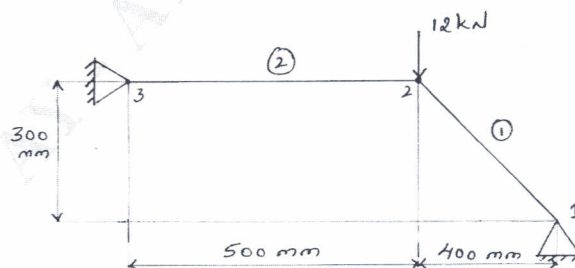

Fig.Q6(b)
b. For the two bar truss shown in Fig.Q6(b), determine the nodal displacement, stresses in each element and reaction at the support. Take $E = 2 \times 10^5 \text{ N/mm}^2$, $A_c = 200 \text{ mm}^2$.